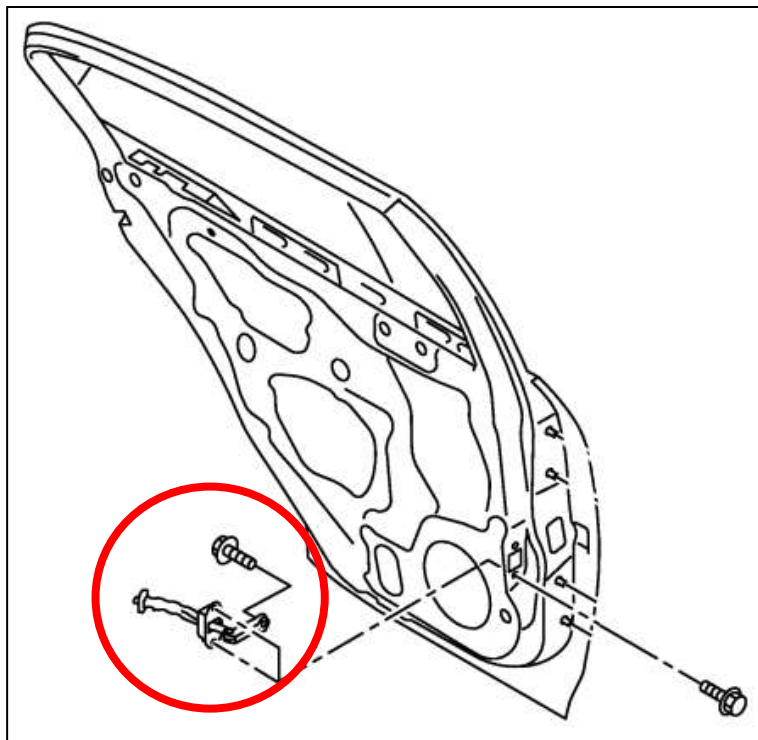

Figure 73
12. Once the bolts are removed, pull the Check Link through the Speaker hole in the door. *Figure 73.*